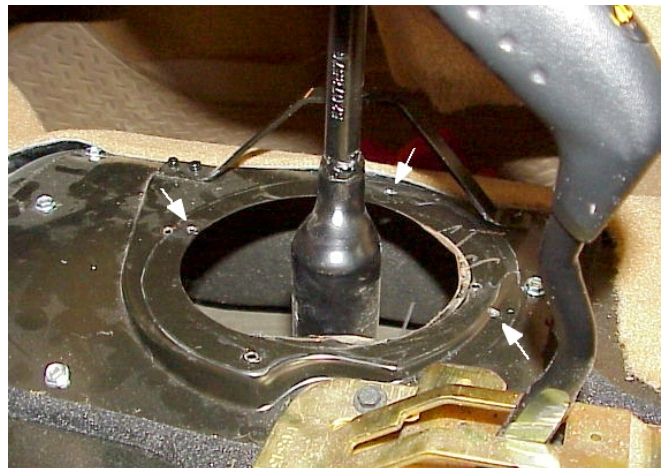

Figure 22
8) Rotate the boot clockwise to match the increased floor pan opening. Mark and drill the three new mounting holes. See figure 22.